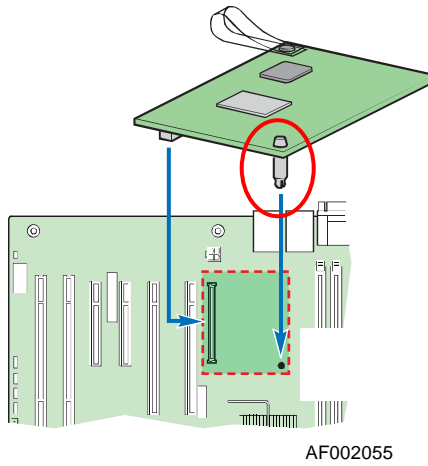

Figure 4: Installing the Intel® RMM2
- The Intel® RMM2 module ships with one plastic standoff pre-installed as shown in Figure 4. The standoff will align with a hole in the server baseboard when mounted to the baseboard.